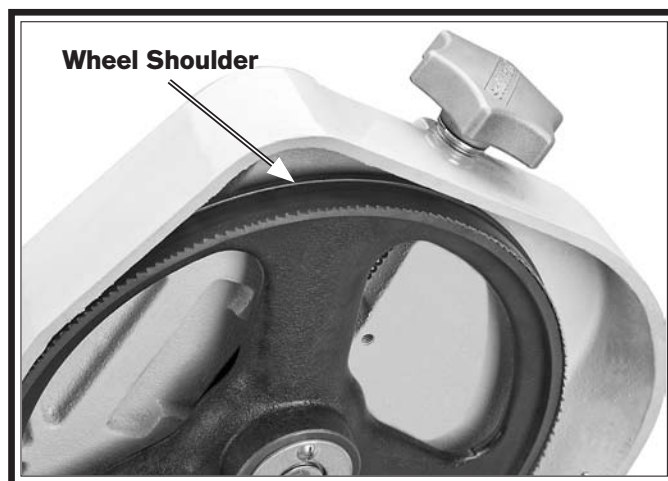

Figure 21. Typical blade/wheel position.
7. When the blade is around both wheels, adjust the position so the back of the blade is against the wheel shoulder, as shown in **Figure 21**.